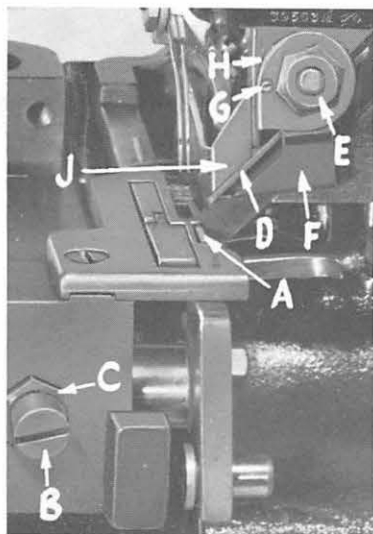

Fig. 11
Replace lower knife holder assembly. Lower knife (A, Fig. 11) should be set with cutting edge flush with throat plate surface. Adjustments are made with hexagonal head screw which holds lower knife. Lower knife is spring pressed against upper knife, so no lateral adjustment is necessary when width of trim is changed.
Replace upper knife assembly. Clamp upper knife (D), Fig. 11) in position, setting nut (E) to hold clamp (F) in its most clockwise position against upper knife. At bottom of its stroke, front cutting edge of upper knife should extend not less than 1/64 inch below cutting edge of lower knife. The chain guard (J) should be set down against the upper knife and slightly back from the cutting edge.